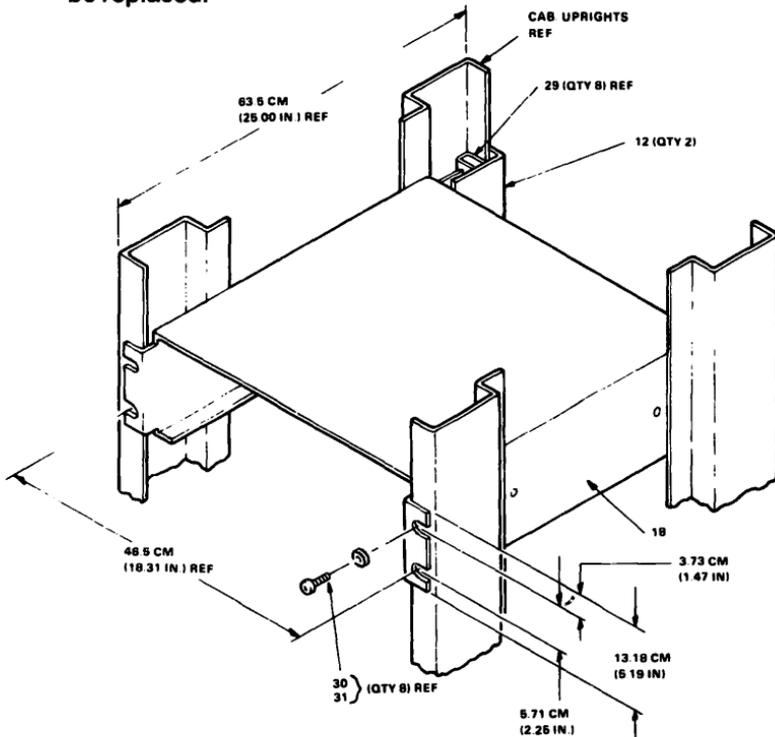

Figure 3 BA11-NE and BA11-NF Cover Mounting Dimensions
**Installing the Logic Box Cover** — The logic box cover is mounted in the equipment rack as shown in Figure 3.